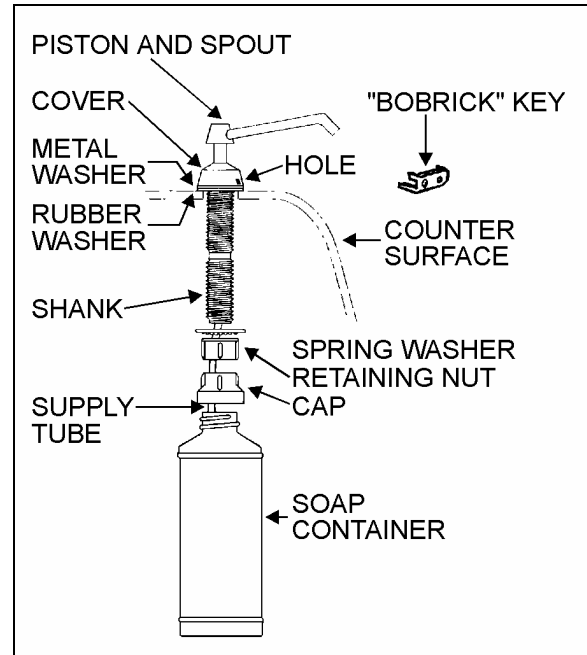

FIGURE 25: LIQUID SOAP DISPENSER
2. Insert projection at end of "BOBRICK" key into rectangular hole in cover (Fig. 25). Push straight in. While holding "BOBRICK" key in, turn cover counterclockwise about 1/8 turn.